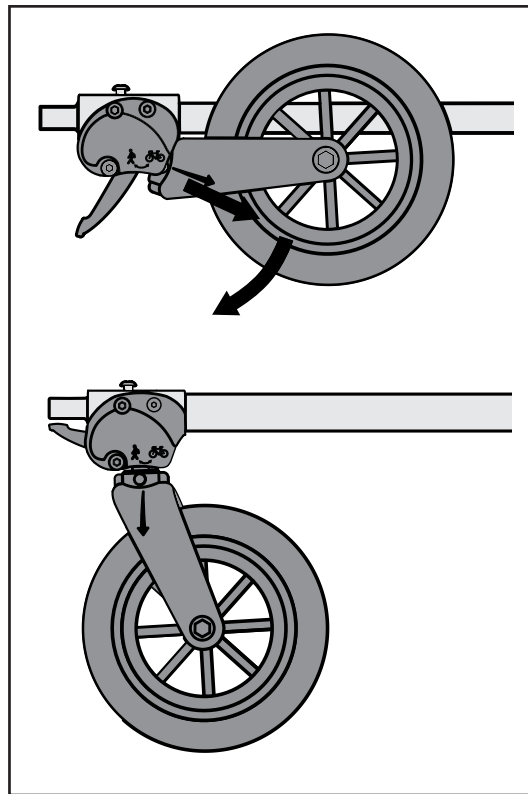

Figure 14
1. Pull fork as shown (Figure 14), then rotate wheel down fully. Fork will automatically secure into the locked position.